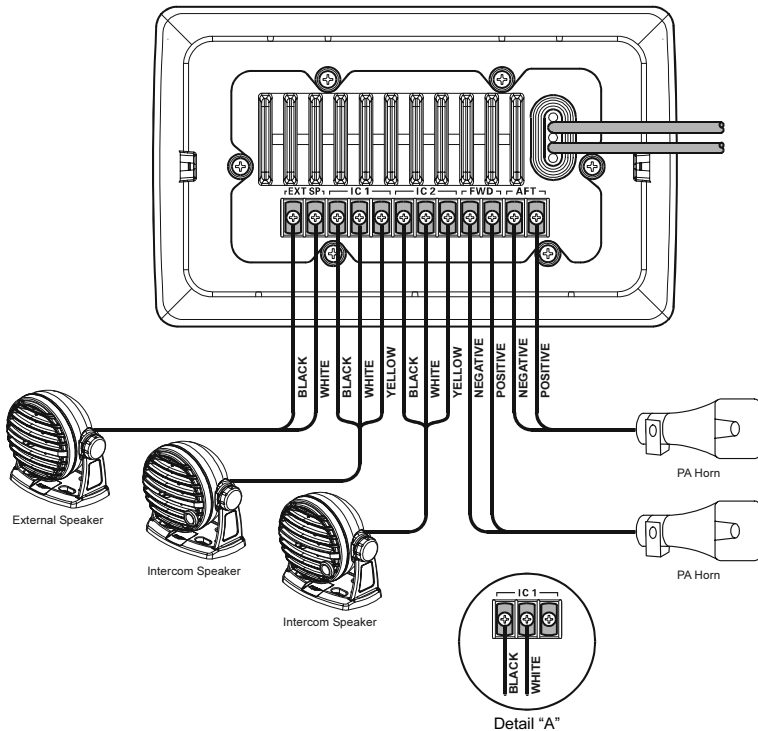

Figure 2. Electrical Connections
Refer to Figure 2 and complete the following steps for the electrical installation.
6. See Detail “A” in Figure 2, If a 2-wire speaker (such as a **MLS-300** External Speaker) is connected to the Intercom terminals (“IC1” or “IC2”), the positive wire should be connected to the center terminal and negative wire should be connected to the left-hand terminal. **Do not connect the any wire to the right-hand terminal!** If you connect one of the wires of a 2-wire speaker to a right-hand terminal, the speaker will beep continuously when turned on.